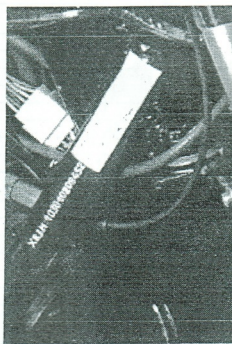

Fig. 1a
1.3 The upper part of the right hand frame pipe locates the Manufacture's Label having the following information (Fig. 1a):